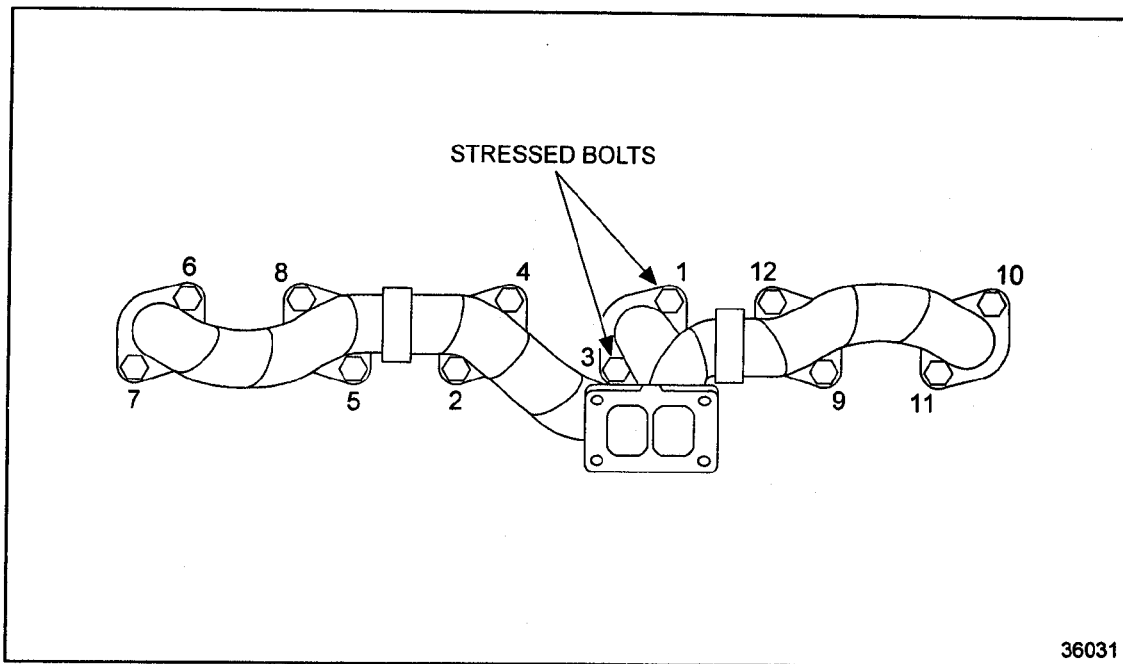

Figure 7-11 **Wrapped Manifold Bolt Torque Sequence**
8. Torque the bolts to 58-73 N·m (43-54 lb·ft) using the tightening sequence. See Figure 7-10. For a wrapped exhaust manifold see Figure 7-11.